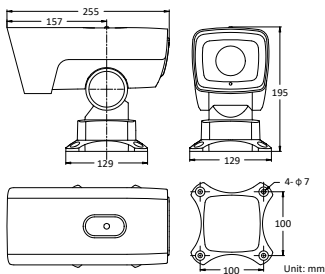

Figure 2-38 Base-mounted PTZ Bullet Camera
- Dimensions of base mounted PTZ bullet camera is shown in Figure 2-38.